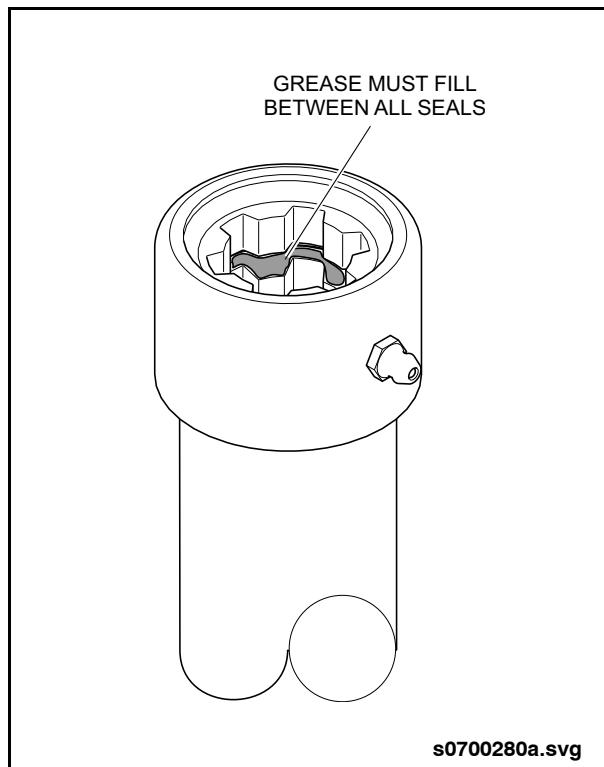

Fig. PM-13: Steering Driveshaft Seal Inspection
4. Completely remove yoke shaft and check the seal of the dust cap. Grease must completely fill between both lips of the seal. See "Fig. PM-13: Steering Driveshaft Seal Inspection" on page 35.